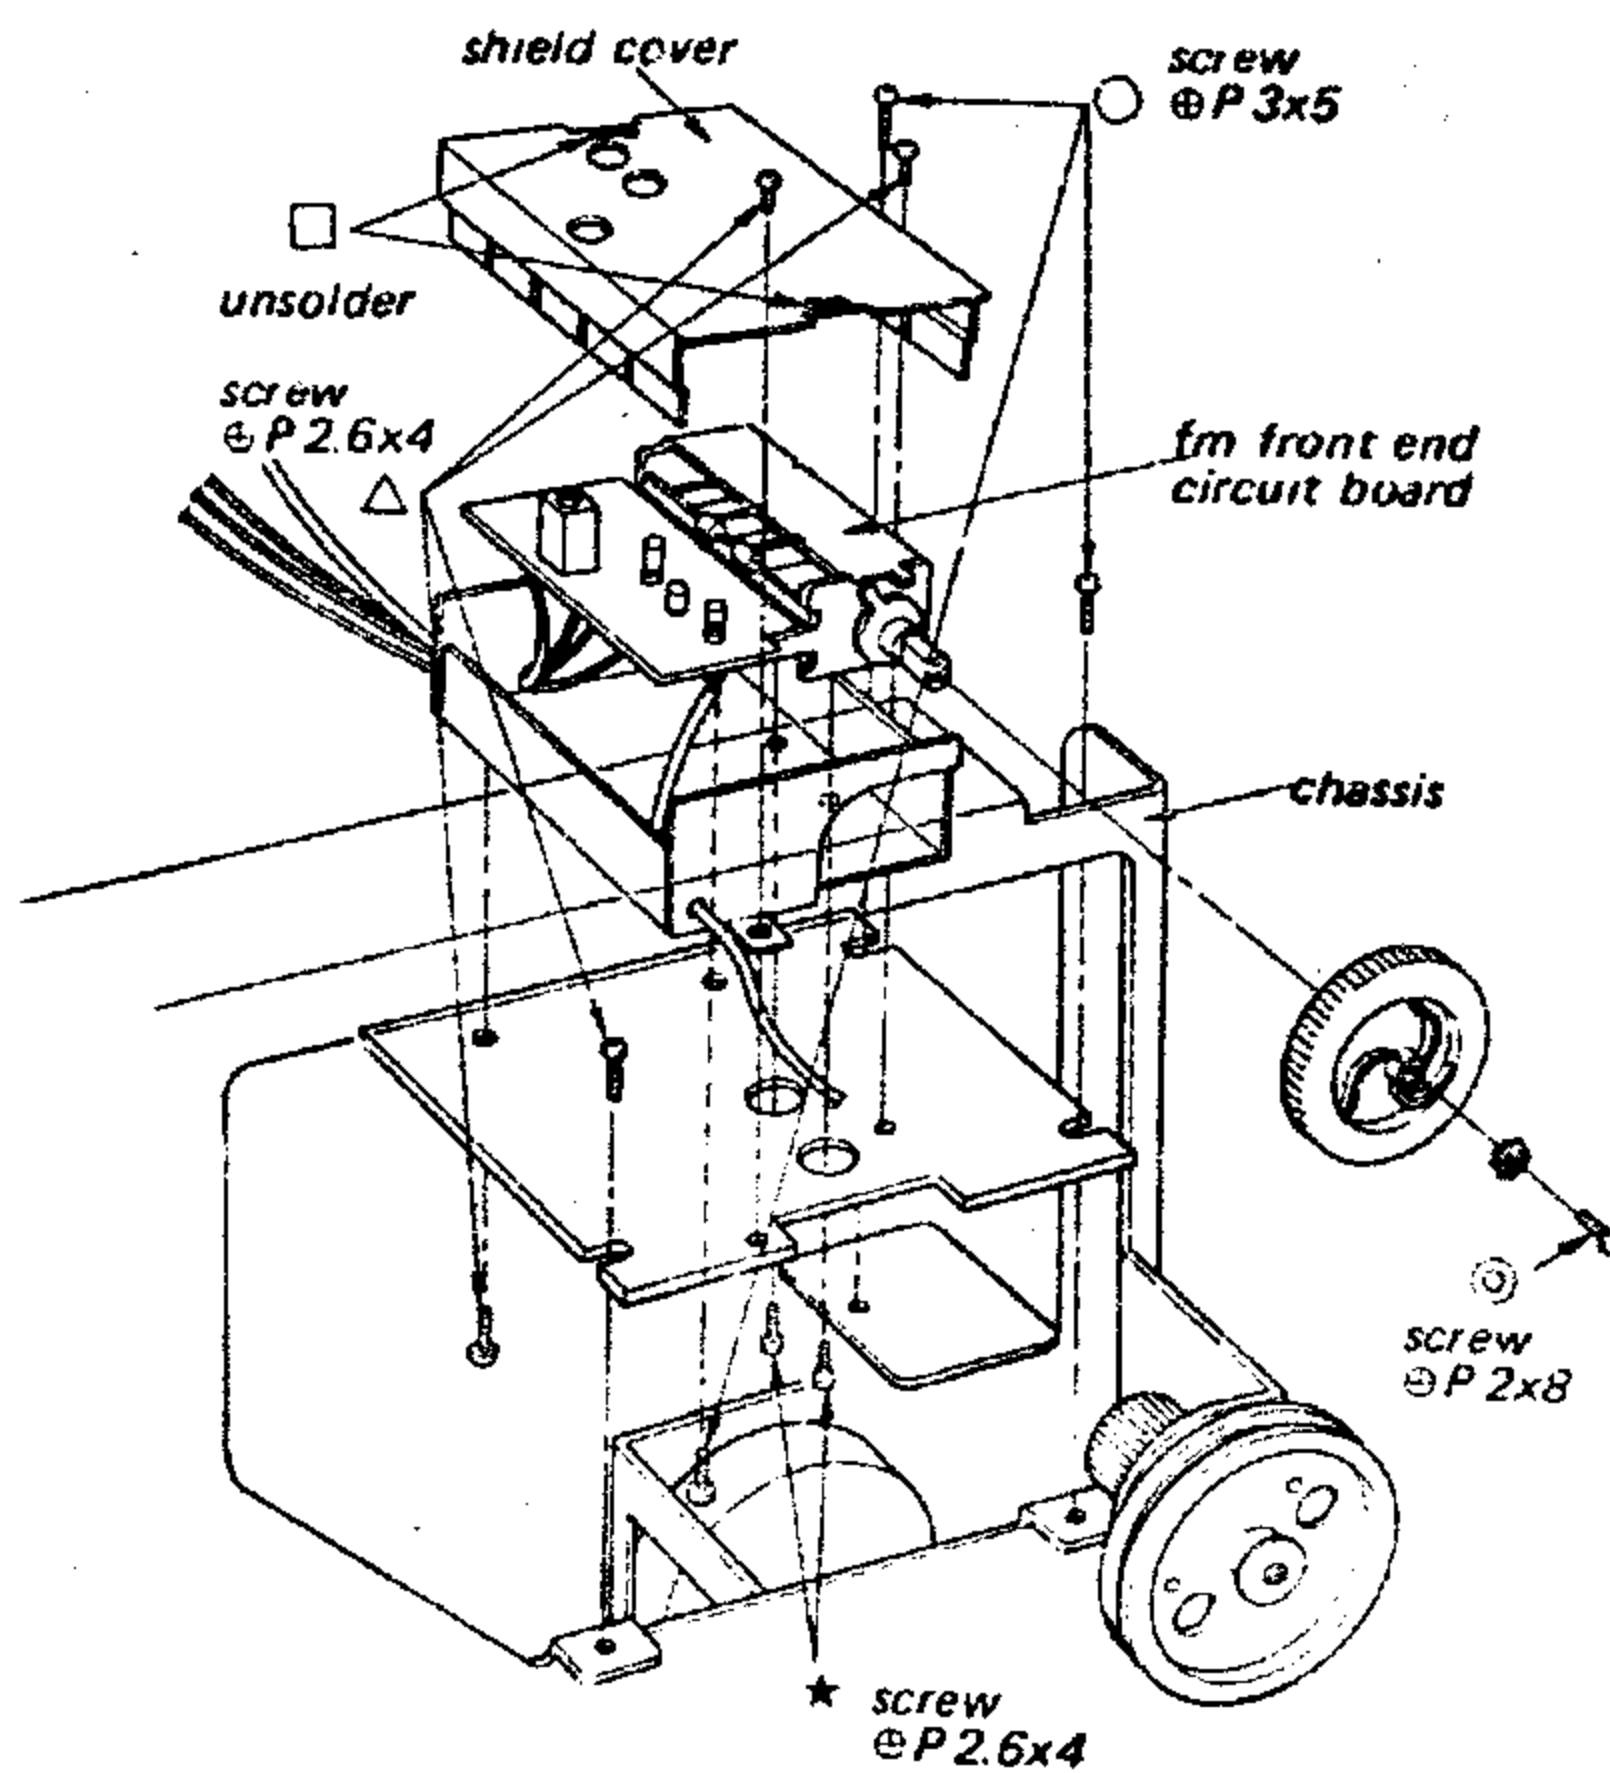

Fig. 2-7
2. Remove the seven screws marked ○ and △ in Fig. 2-7.
6. Take out the shield cover and fm front end circuit board as illustrated in Fig. 2-7.